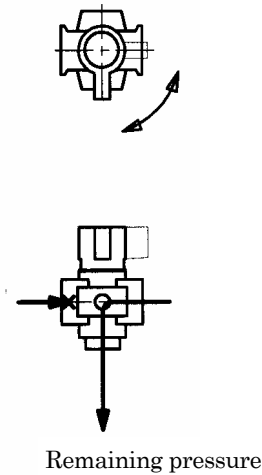

Fig.7
2. "Exhaust" position (See Fig.7).
When the pipe and the lever are at right angle as in Fig.7, letter"EXH." can be seen in the window below the lever. In this lever position, the primary air supply is shut off and the remaining compressed air in the apparatus is exhausted.